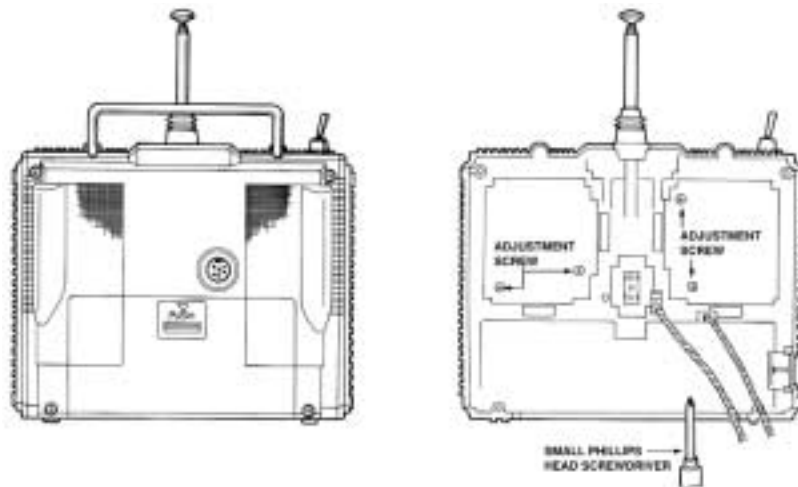

FIGURE 7
The **stick tension** can be adjusted from inside the transmitter. This allows you to customize the feel of the sticks to your hands. **NOTE:** Be cautious when removing and replacing the transmitter backplate. Do not pinch or pull wiring harnesses or drop objects onto the PC board. Electrical short circuits may permanently damage the radio and void your warranty. Remove the screws from each corner on the back of the transmitter (four total). The tension adjustment screws are shown in figure 7.
1. Connect the Tower Hobbies trainer cord (TOWM6080) to the trainer cord jack on the back of both transmitters (see figure 7).